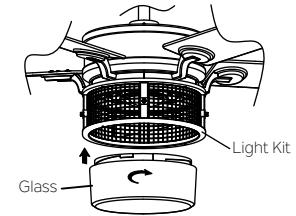

Fig. 21
**Step 4.** Secure the glass to light kit by twisting in a clockwise direction. Do not over-tighten. (Fig. 21)